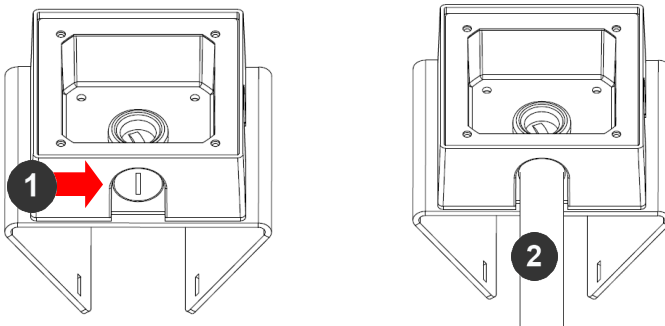

Figure 1: Attach conduit to AV-JBA junction box adapter
3. Attach the AV-JBA (Junction Box Adapter) to the Pole Mount Adapter (Figure 1).
4. Remove the conduit plug on the junction box adapter and connect 3/4" NPT conduit to the junction box adapter (Figure 1).